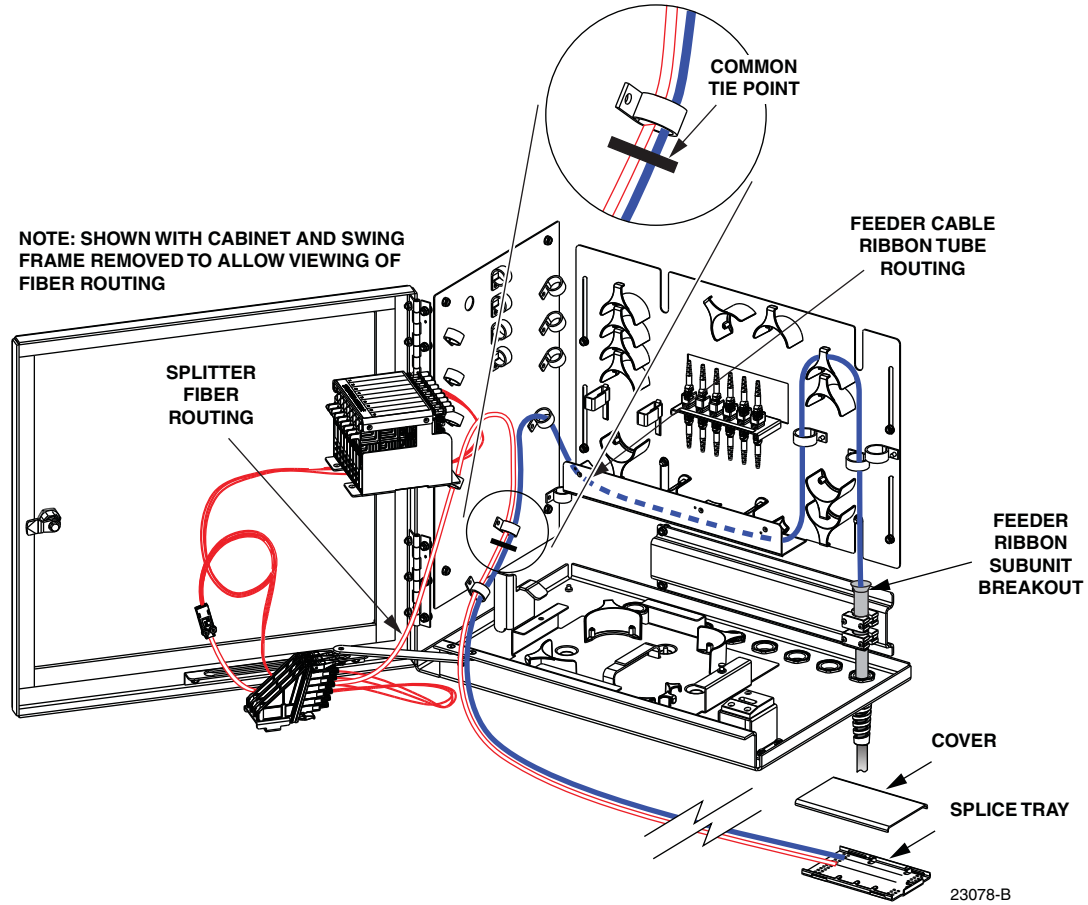

Figure 36. Feeder Fiber Routing to Splice Tray - Ribbon Cable
- Beginning at the feeder cable ribbon breakout point shown in Figure 36, route the protective tube or ribbon subunit to the intersect point with the splitter fibers.